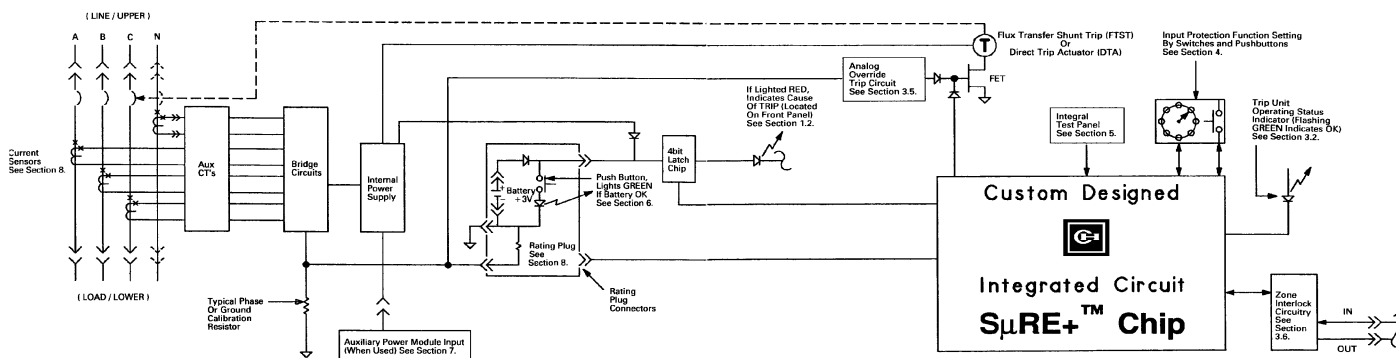

Fig. 3 Digitrip RMS 510 Block Diagram with Breaker Interface
The trip unit employs the Cutler-Hammer Inc. custom designed integrated circuit $S_{\mu}RE +$ chip, which includes a microcomputer to perform its numeric and logic functions. The principle of operation is described by the block diagram shown in Fig. 3.
The LEDs, shown in Figs. 1 and 2.1-2.6, on the face of the trip unit, light "RED" to indicate the reason for any automatic trip operation. As indicated in Figs. 2.1-2.6, each LED is strategically located in the related segment of the time-current curve depicted on the face of the trip unit. The reason for trip is identified by the segment of the time-current curve where the LED is lighted "RED". Following an automatic trip operation, the back-up battery, continues to supply power to the LEDs as indicated in Figs. 3 and 6. To check the status of the battery, see Section 6.
Zone Selective Interlocking (or Zone Interlocking) is available (see Fig. 3) for Digitrip RMS Trip Units having Short Delay and/or Ground Fault protection. Zone Selective Interlocking provides the fastest possible tripping for faults within the breaker’s zone of protection, and yet also provides positive coordination among all breakers in the system (mains, ties, feeders and downstream breakers) to limit the outage to the affected part of the system only. When Zone Interlocking is enabled, a fault within the breaker’s zone of protection will cause the RMS DIG-ITRIP trip unit to:
- 2) There is a condition under which the Long Delay Trip LED can erroneously indicate a LDT has occurred, even though the breaker is still closed. This can happen when an overload current momentarily exceeds the Long Delay Current Setting, I_r , so that the Long Delay LED flashes "RED" to indicate the overload condition. Then if, at the very moment when the LED is "ON", the load current would then suddenly drop to a value less than 10% of the breaker frame (or current sensor) rating, the trip unit stops functioning while the "4bit Latch Chip" (See Fig. 3) is set and the LED remains Lighted. If the current would again increase to a value above the Long Delay Current Setting, I_r , and then return to normal, the